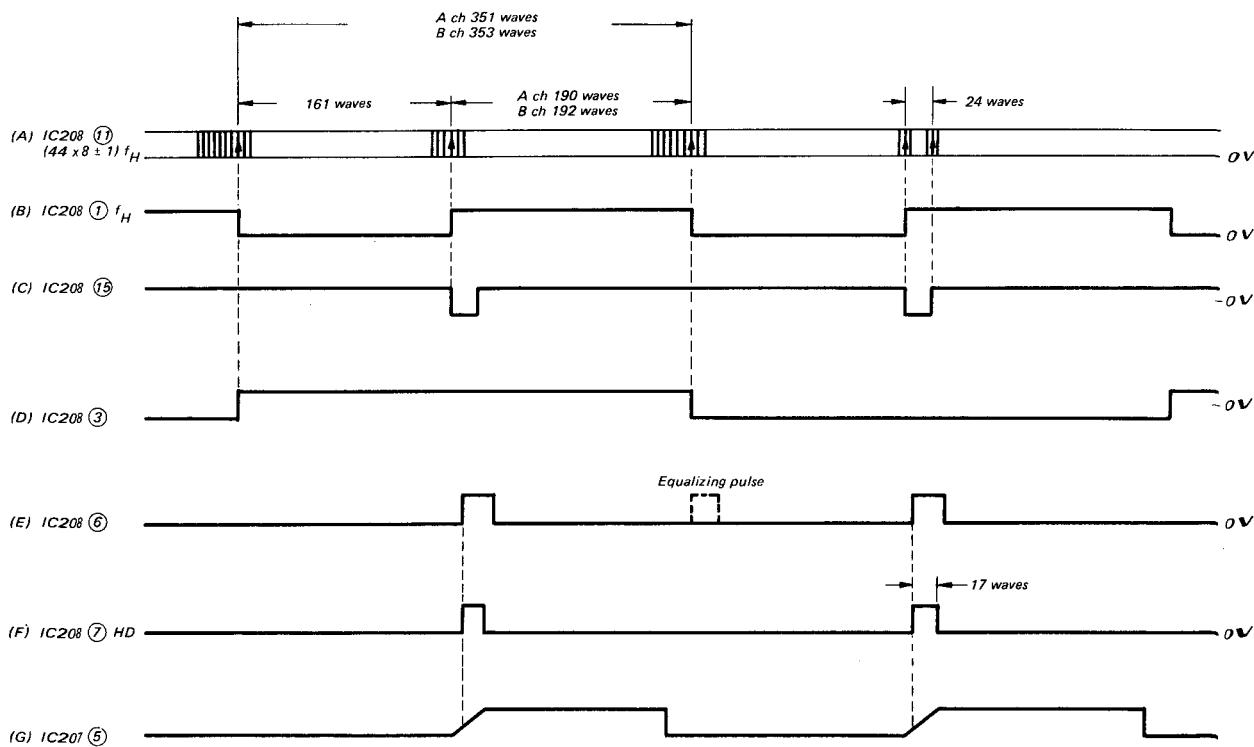

Fig. 3-30
Block diagram is shown in Fig. 3-31 and Timing chart is shown in Fig. 3-30.
The output signal from pin 11 of IC208 (waveform is shown in Fig. 3-30 (A)) is fed to the 1/(44 x 8 ± 1) countdown stage through pin 12.
The output of the countdown circuit which waveform is shown in Fig. 3-30(B) is fed to AFC detector through the integrator (waveform is shown in Fig. 3-30(E)).
The output of sync separator of which waveform is shown in Fig. 3-30(E) is fed to pin 6 of IC208, HD pulse generator where the equalizing pulses are removed and HD pulse (3μs) is output from pin 7 of IC208. (waveform is shown in Fig. 3-30(F))
The pilot burst cleaning pulse is output from pin 15 of IC208. (waveform is shown in Fig. 3-30 (C)).